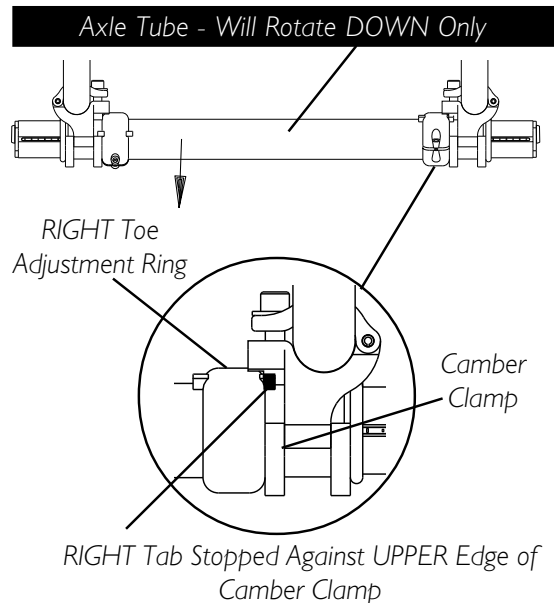

FIGURE 8 - ADJUSTING THE AXLE TUBE
ADJUSTING THE AXLE TUBE (FIGURE 8)**WARNING**
2. Loosen the set screw that secures each toe adjustment ring to the axle tube (FIGURE 8).
3. Using an "L" square, rotate the axle tube until the flat edge of the camber insert is at a 90° angle with the ground/floor as shown in FIGURE 8.
8. Perform one (1) of the following: